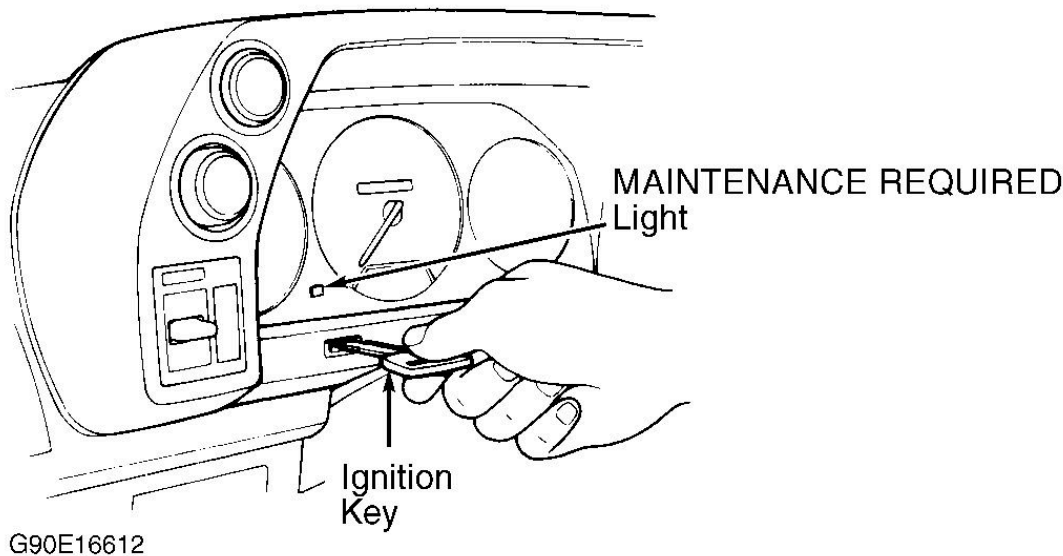

Fig. 2: Resetting Maintenance Required Light
2. When service has been completed, reset MAINTENANCE REQUIRED reminder light. To reset reminder light, turn ignition off. Insert ignition key in slot provided below tachometer. See **Fig. 2**.